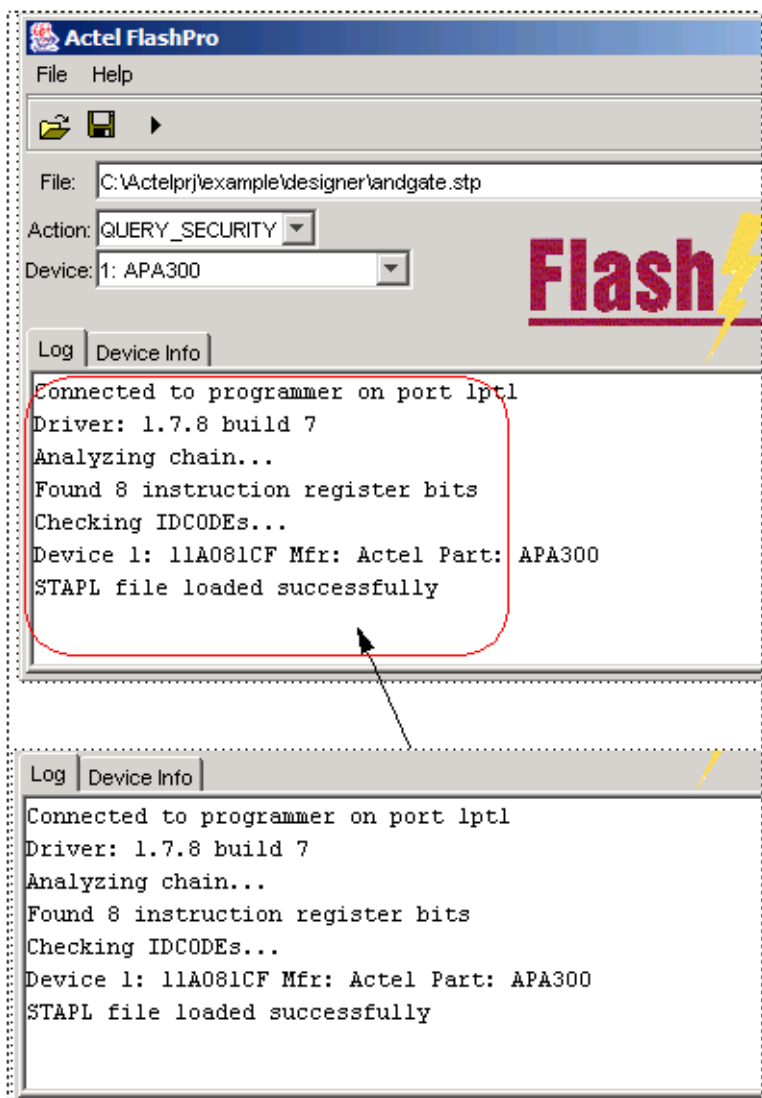

Figure 5-33. Successfully Programmed Device
4. **Make the required selections and click *Execute* to start programming.** The progress of the programming action displays in the Log window. The message 'Exit 0' indicates that the device has successfully been programmed, as shown in Figure 5-33.